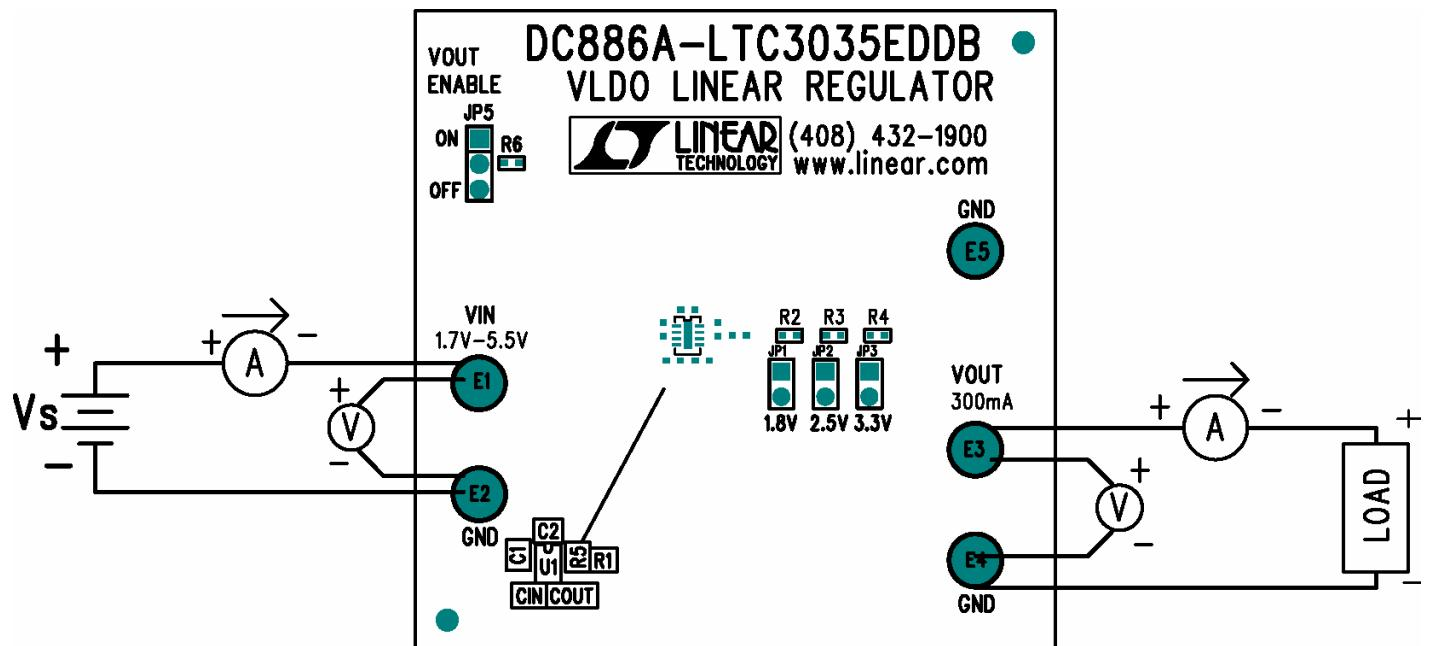

Figure 1. Proper Measurement Equipment Setup
The DC886 demonstration board is easy to set up to evaluate the performance of the LTC3035. For proper measurement equipment configuration, set up the circuit according to the diagram in **Figure 1**. Before proceeding to test, insert jumper JP5 shunt into the off (lower) position, connecting the RUN pin to ground (GND), which shuts down the circuit.
1. Connect the input power supply and the load to the board. Do not hot-plug VIN or increase VIN over the rated maximum supply voltage of 5.5V, or the part may be damaged. Refer to Figure 1 for the proper measurement equipment setup.